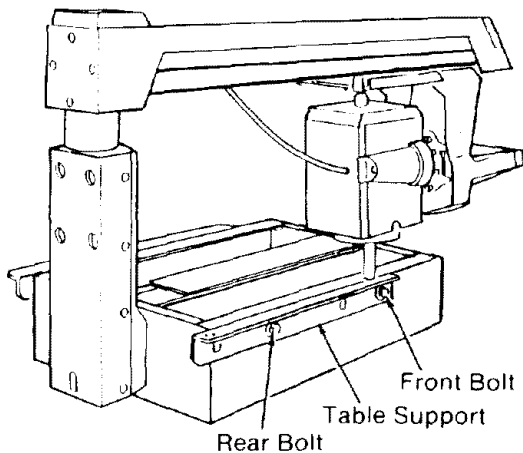

Fig. 61
13. Move the *arm* and *motor* until the *arbor shaft* is over the front bolt on the left *table support*. Do not change the elevation of the *arm* as you move from point to point. (Figure 61)